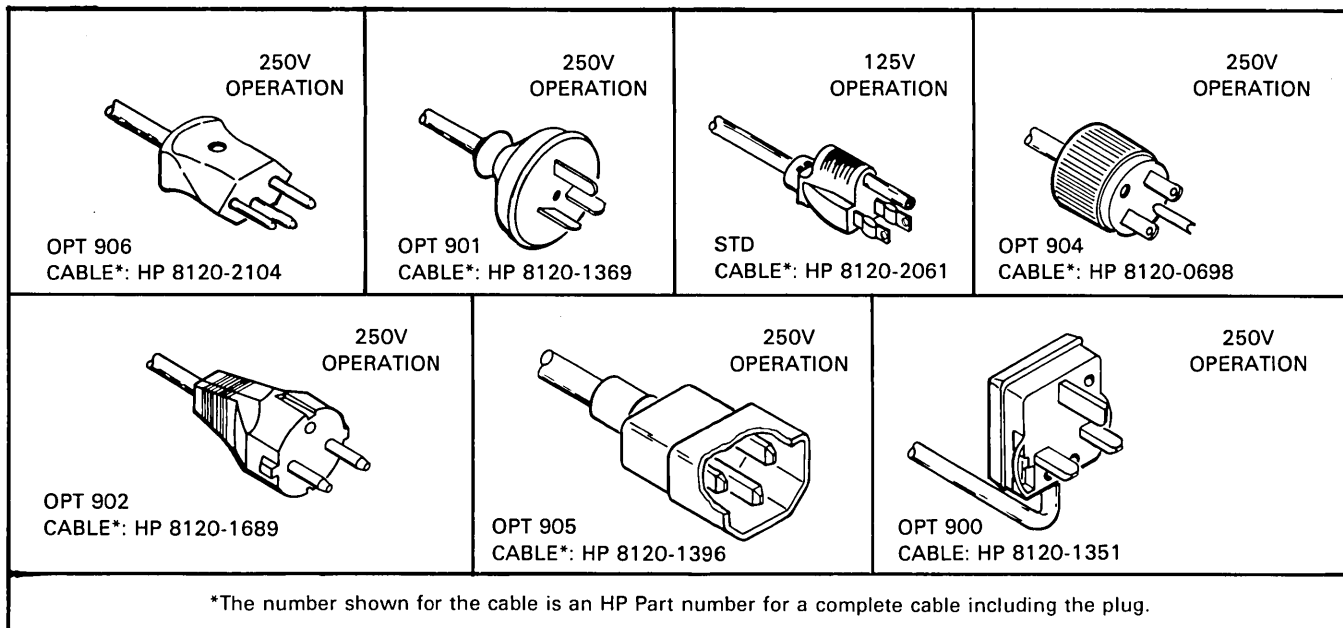

Figure 2-2. Power Cables Available
**2-9. AC POWER CABLE.** This instrument is equipped with a three-wire power cable. When connected to an appropriate ac power receptacle this cable grounds the instrument cabinet. The type of power cable plug shipped with each instrument depends on the country of destination. Figure 2-2 shows the part numbers (and associated Option numbers) for the power cables and plug configurations available.